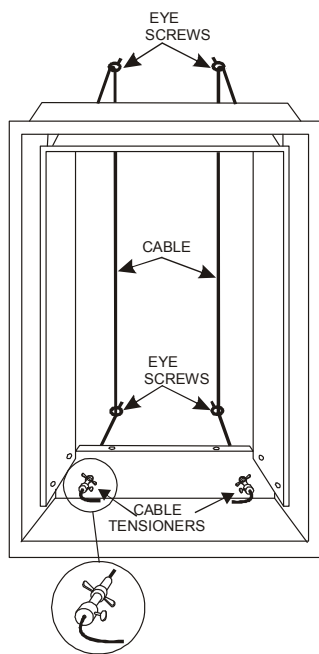

Figure 70
5. Place the Freedom Surround into the prepared opening, threading the cables through the outer eye screws, and through the holes in the base of the surround, as shown in **Figure 70**.